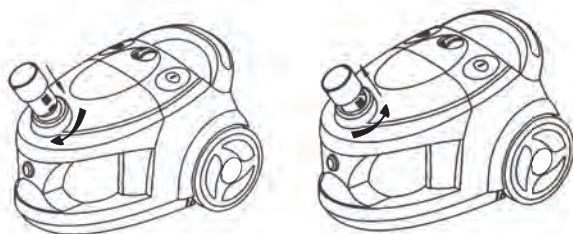

Рис.1
- Insert the flexible hose ending (8) into the air inlet (10) (fig. 1).